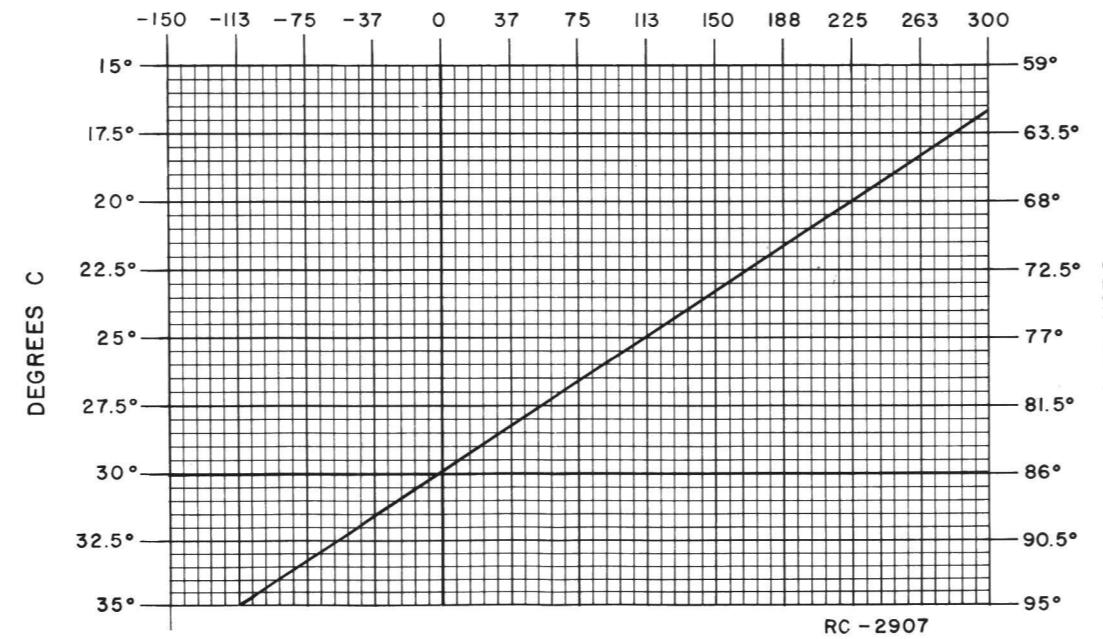

Figure 3 - Frequency Characteristics Vs. Temperature
To set crystal frequency using "beat frequency" method, the temperature should be at 30°C (86°F). If the temperature is not 30°C, then offset the "ON FREQUENCY" signal (at the receiver input), as a function of actual temperature, by the frequency ERROR FACTOR shown in Figure 3.
- Maintain the radio at 30°C (±5°C, -10°C) and offset the oscillator, as a function of actual temperature, by the frequency error shown in Figure 3.